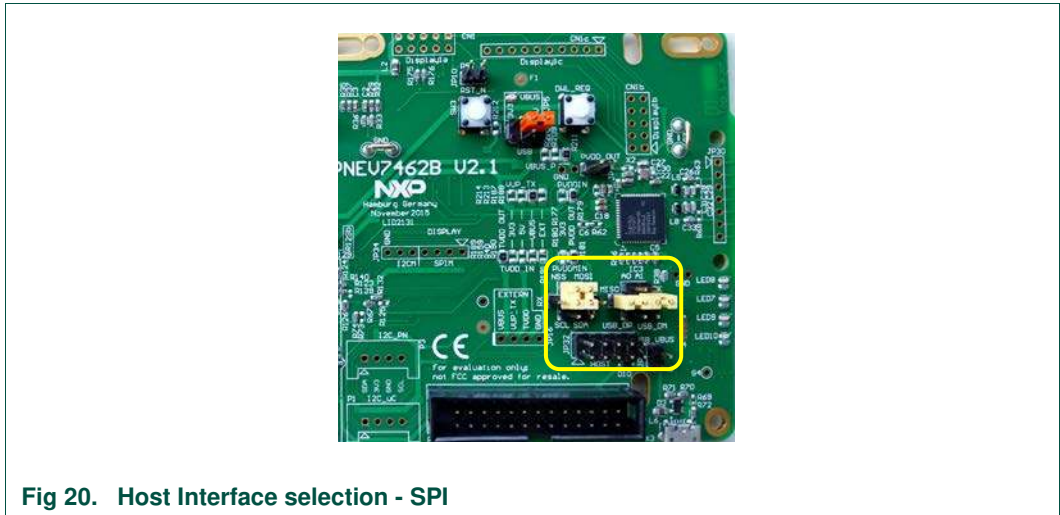

Fig 20. Host Interface selection - SPI
The yellow marked jumpers (Fig 20) needs to be set for using the SPI host interface of the chip. This will connect the SPI_MOSI of the PN7462AU to the I/O P0(18), SPI_MISO to the I/O P0(17), SCK to the I/O P0(15), and also the NSS of the PN7462AU to the I/O P0(16) of the LPCXpresso board.